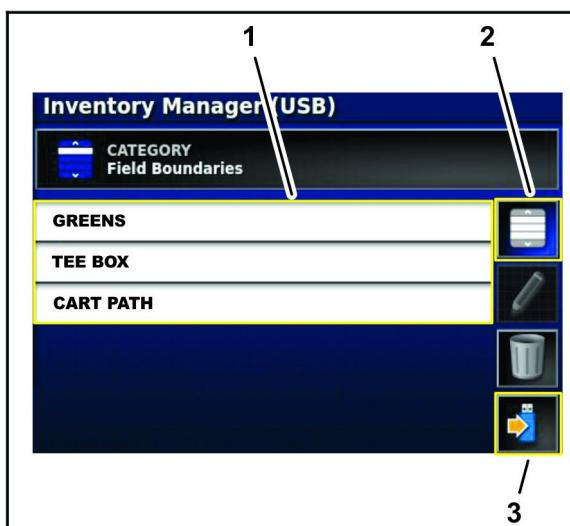

Figure 105
- Press the Select All icon to select all information from the category (Figure 105).
8. Press the Save Selected Items icon (Figure 105).